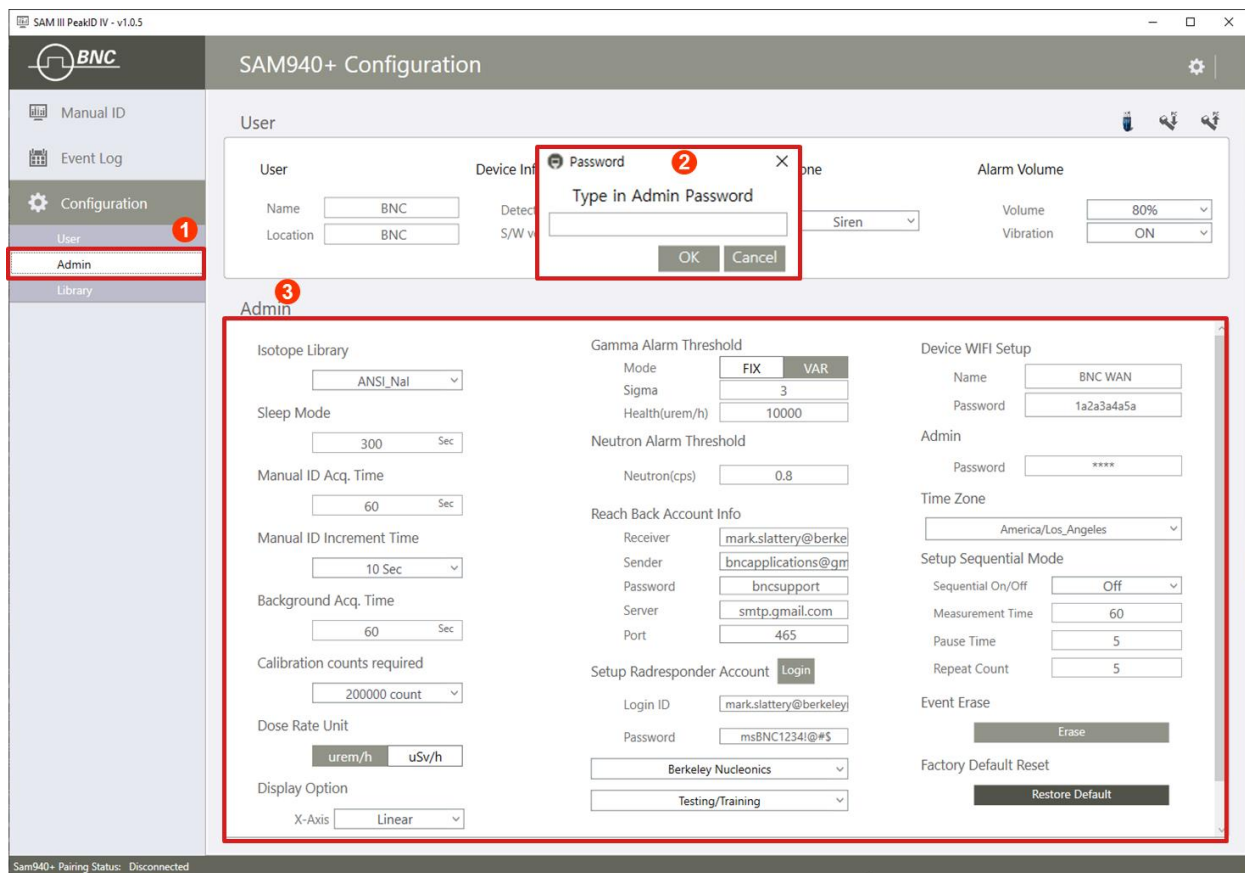

Figure 7.9.10. Admin menu GUI example
1. Click the **Admin** menu (Figure 7.9.10). ①
2. Enter the Administrator password ②. The default password is **1234**. The Admin configurable List is shown in figure 7.9.10. ③